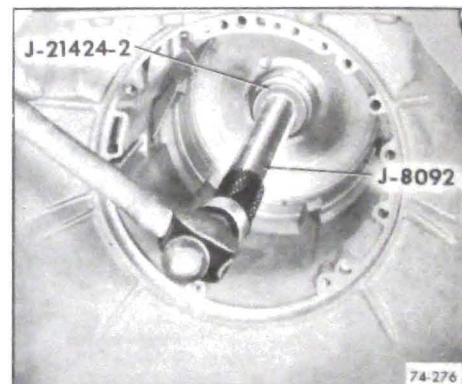

Figure 74-168
2. Install case bushing, using Tool J-21424-2. Make certain split on bushing is opposite notch in case. See Figure 74-168.